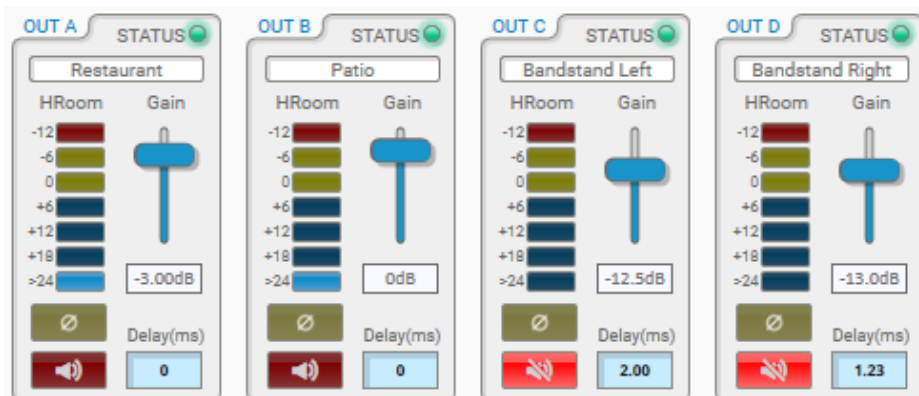

Figure 8 – Screenshot of Output Section.
- The Output Section controls the *User EQ* section of the amplifier (found in Armonía +) and is made up of the following controls (Figure 8):